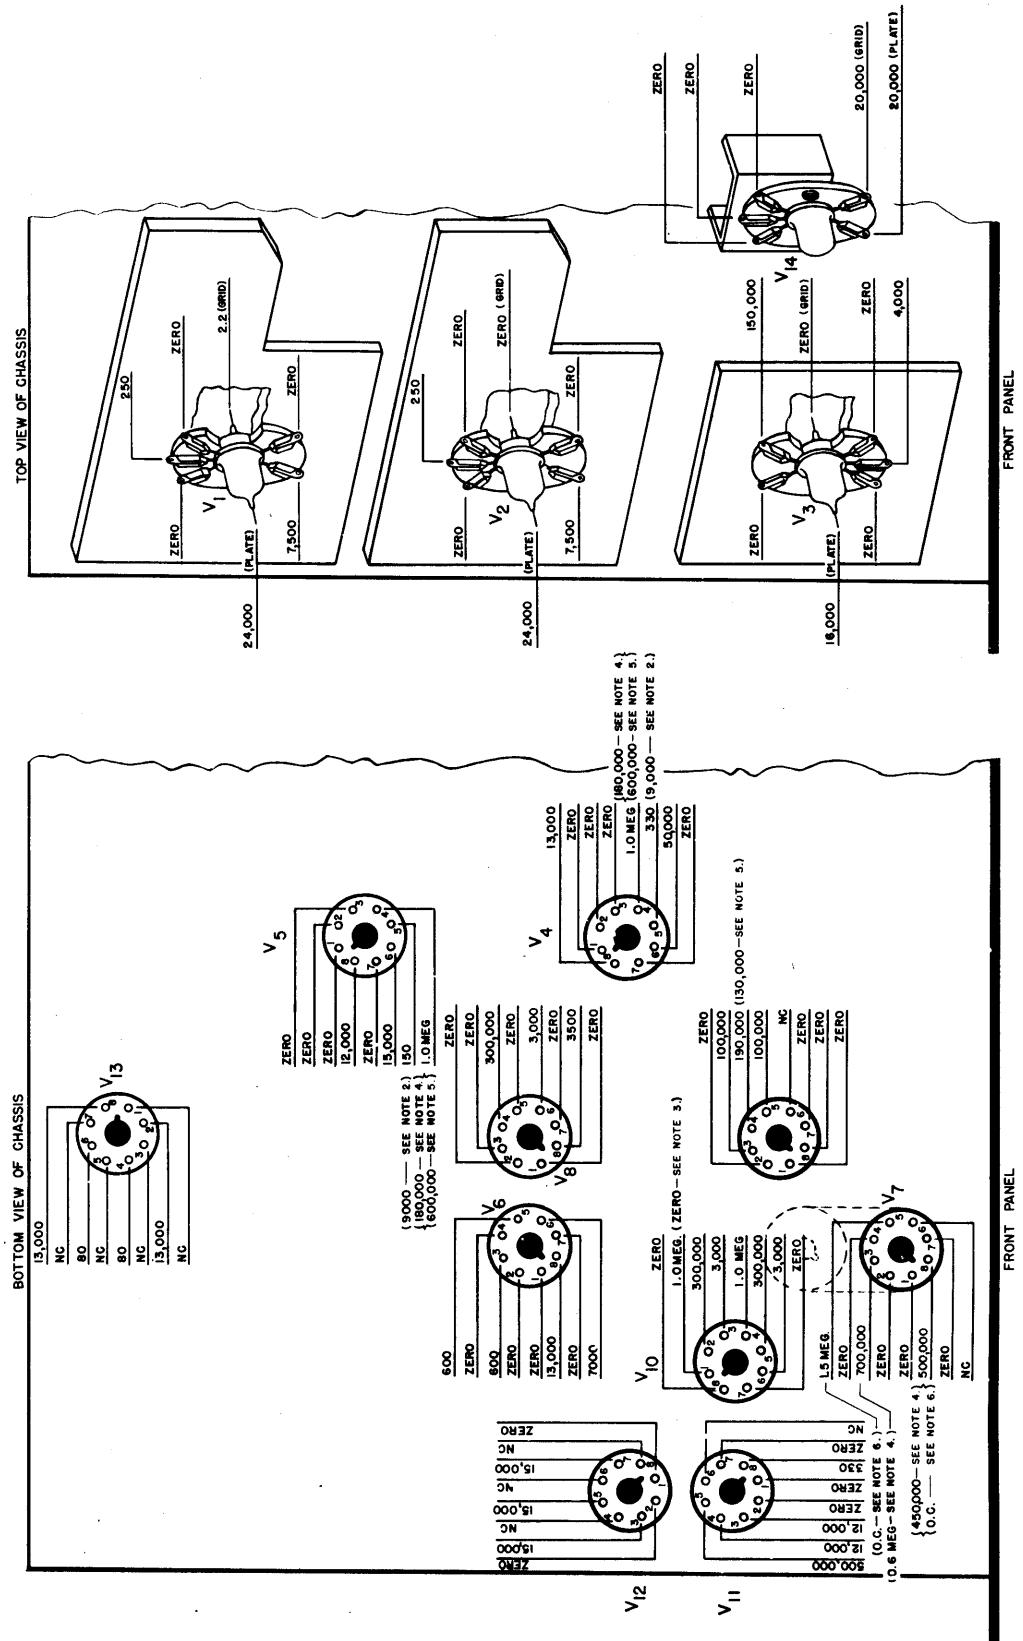

Figure 5-3. Radio Receiver Model S-37, resistance chart.
b. **Resistance Chart.** - Refer to Fig. 5-3. for the tube socket terminal to ground (chassis) resistance measurements. To identify tube socket connections, refer to Fig. 7-6. The readings were taken with an RCA Volt Ohmyst Junior analyzer. To prepare the receiver for measurement, disconnect the a-c line cord and set the controls as follows: